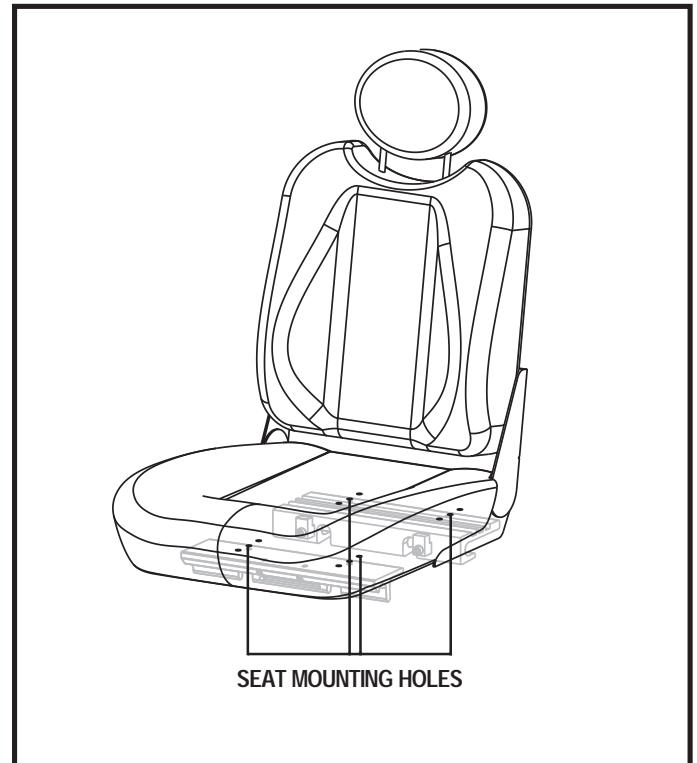

Figure 17. Seat Position Adjustment
5. Reposition the extrusions on a different set of mounting holes. You must move both extrusions the same number of holes either forward or backwards. See figure 17.